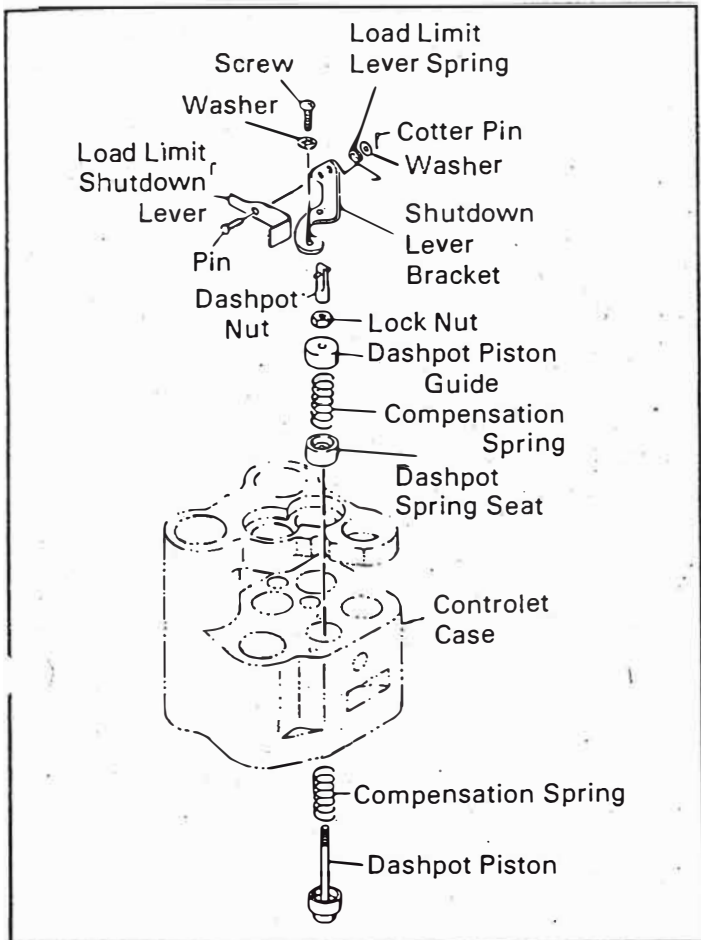

Figure 8. Double Spring Compensation
2. Adjust the receiving compensating piston lock nut until the upper face of the receiving compensation piston is 1/8 inch above the lower face of the inspection opening in the controlet. See assembly procedures, item 16 in section four. Figure 8 shows the various parts of the two-spring compensation system.